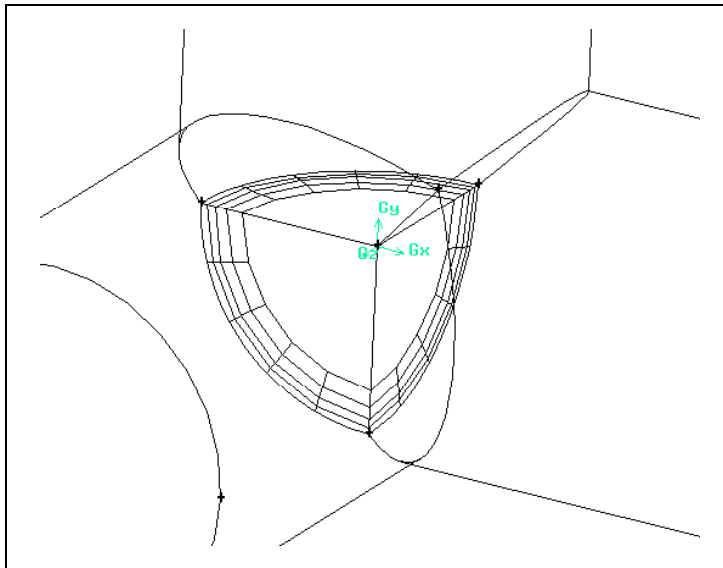

Figure 3-11: Boundary layer on three edges of the sphere octant
- f) Select one of the three curved edges where the sphere octant intersects the pipes (Figure 3-11).
The boundary layers will be displayed on the edges as shown in Figure 3-11.